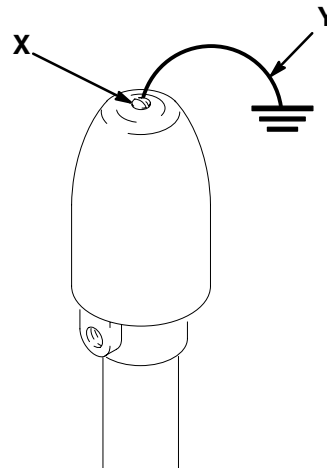

Fig. 2
1. *Pump*: connect a ground wire and clamp as shown in Fig. 2. Loosen the air motor shield retaining screw (X). Connect one end of a 12 ga (1.5 mm²) minimum ground wire (Y) to the screw (X) and tighten the screw securely. See Fig. 2. Connect the other end of the wire to a true earth ground. Order Part No. 222011 Ground Wire and Clamp.